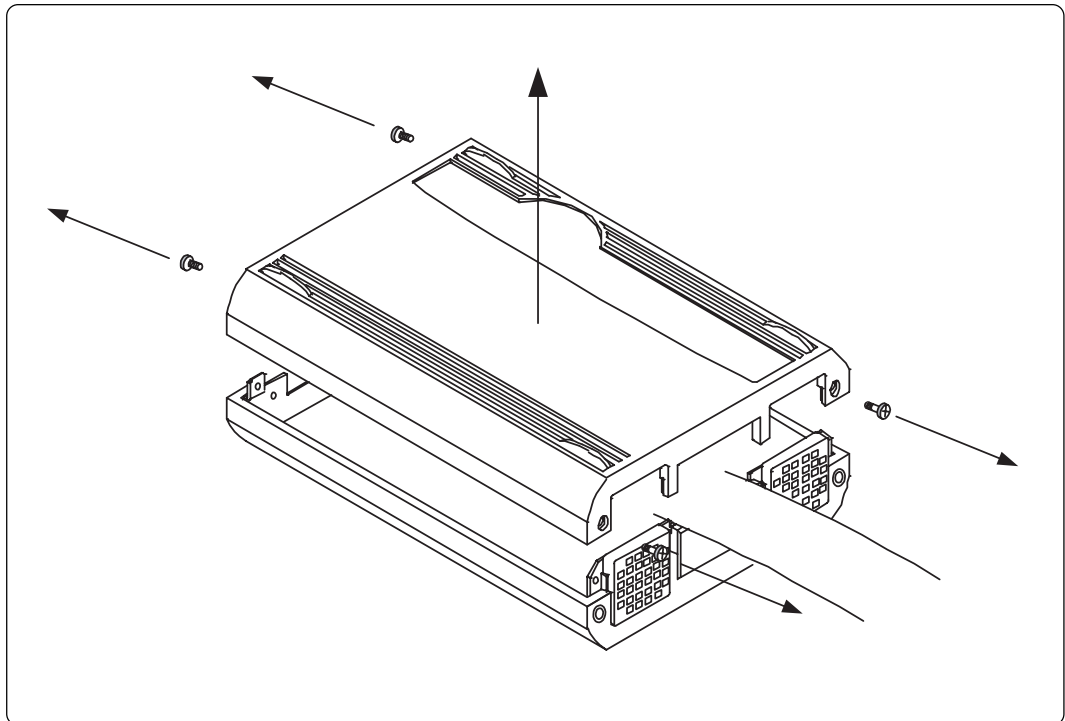

Figure 3.1 Removing the upper cover
- (1) To open the upper cover, remove the four screws of both sides of this product and lift off the upper cover (see Figure 3.1).
- (2) To close the upper cover, attach the upper cover and secure the four screws of both sides of this product.